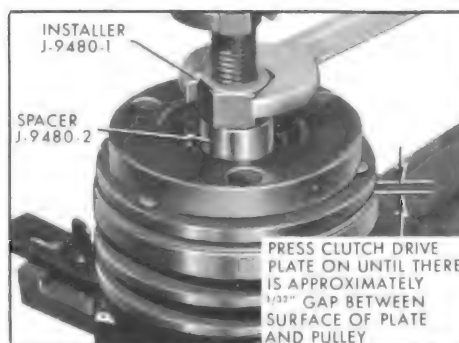

Figure 11-102—Installing Clutch Drive Plate
3. Place Spacer J-9480-2 on Clutch Drive Plate Installer J-9480-1 and thread installer on end of compressor shaft. See Figure 11-102. Press the clutch drive plate on shaft until there is approximately 3/32" space between the friction faces of the drive plate and pulley as shown in Figure 11-102.